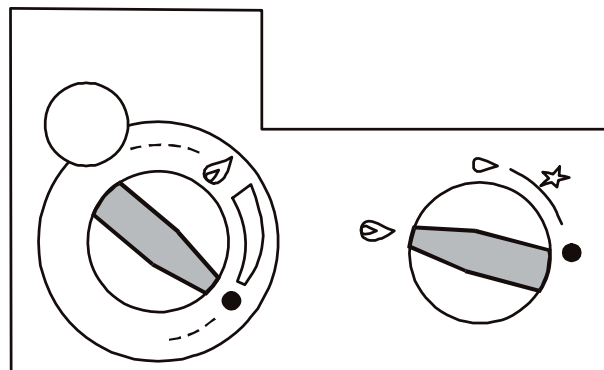

Figure 9 - Main burner operational, but gas flow off
3. Turn the IGNITION KNOB anticlockwise to the main flame position as shown in **Figure 9**.